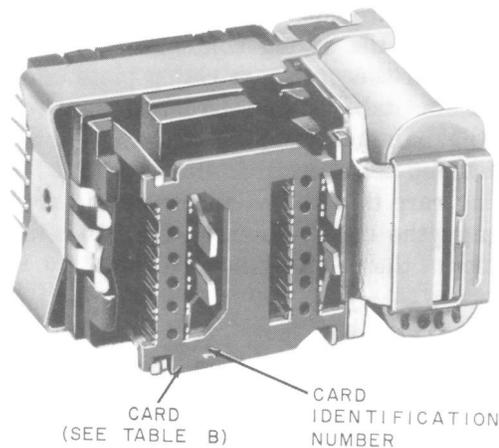

Fig. 4—12-Position Relay—Cover Removed
*The identification number is stamped and located in the lower left-hand corner of each card when the card is properly mounted on the relay, as shown in Fig. 4. The number stamped on the upper left-hand corner of the card is the molding cavity identification number and is used for manufacturing purposes only. Order the replacement card by the piece-part number corresponding to the identification number on the card to be replaced.